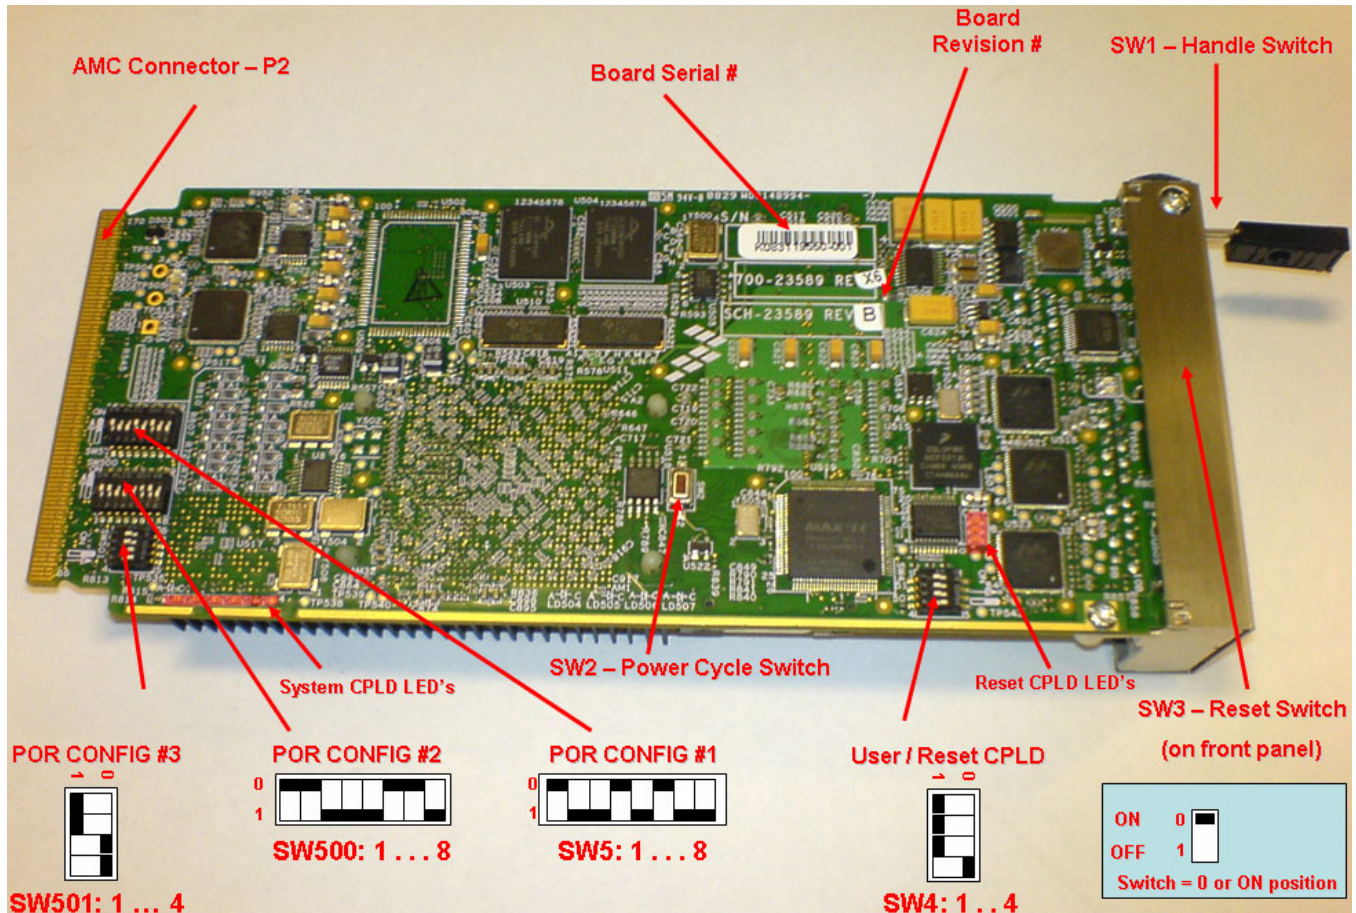

Figure 4-1. MPC8572EAMC—Switches, Jumpers, LEDs and Push Buttons
5. Check for completion of the reset sequence indicated by the LEDs; see Figure 4-1 for locations. A full description of the LEDs is given in Table 4-3.
This chapter describes the controls and indicators for the MPC8572EAMC processor board, which includes switches, jumpers, LEDs, and push button switches, shown in Figure 4-1.
Figure 4-1 shows the location of the DIP switches on the board and their default (factory) position. Table 4-1 describes the possible settings of all DIP switches on the boards. Note that when in the “ON” position, the value of the switch is zero. For a detailed description of the bits and fields, refer to the Section 4.4.3, “Power-On Reset Configuration” in the *MPC8572E PowerQUICC™ III Integrated Host Processor Family Reference Manual, Revision 2*.
Table 4-3 describes the functions of the LEDs on the MPC8572EAMC Processor Board. The physical locations of the LEDs are shown in Figure 4-1.